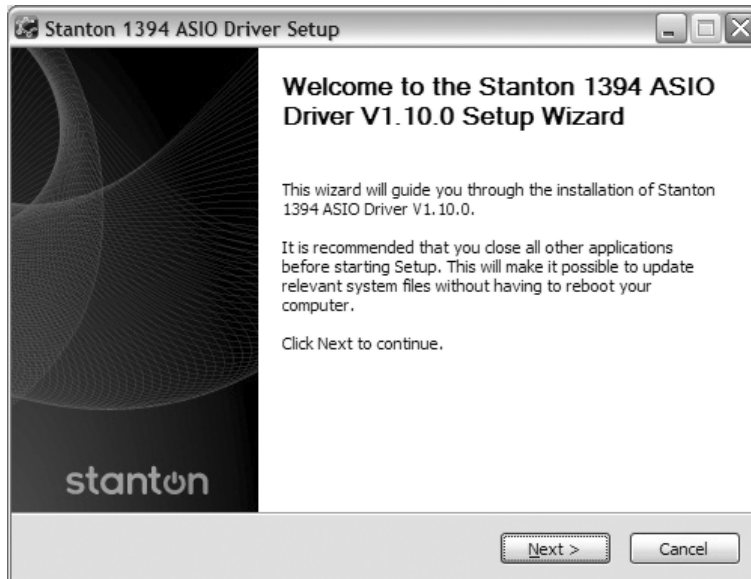

Figure 4.5
5. The installation of the ASIO / high level FireWire driver will begin. When you are ready, click **Next**. (Figure 4.5)